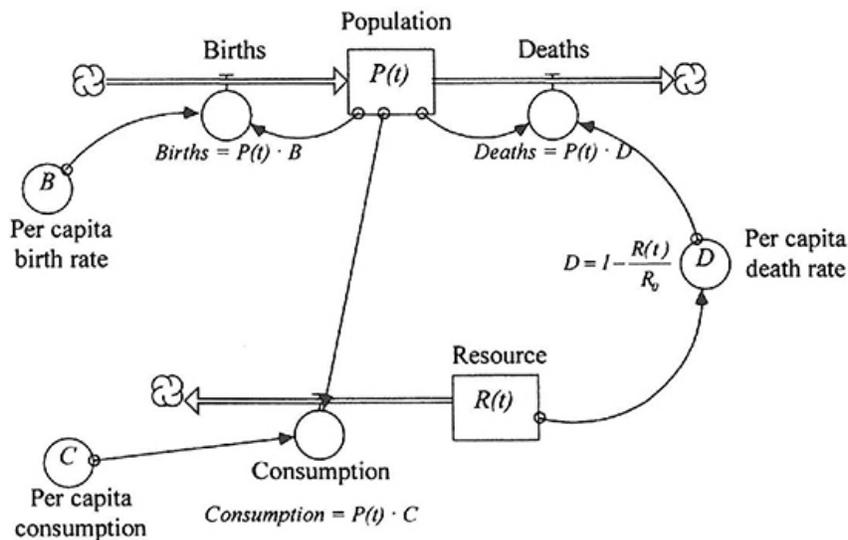
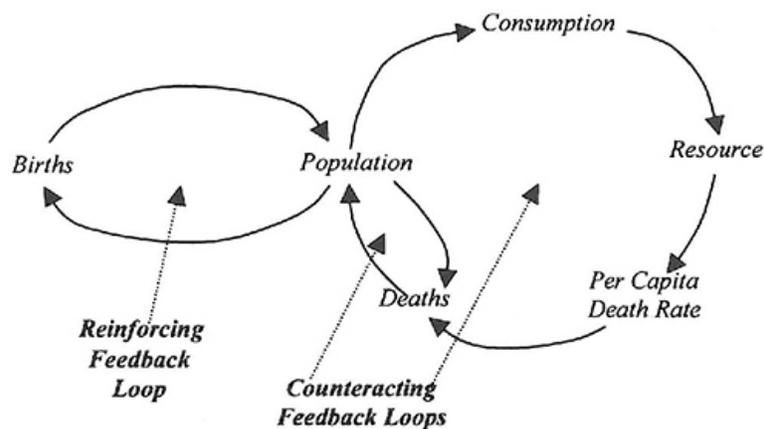

FIGURE 2.15. Generic system diagram for overshoot and collapse behavior.
FIGURE 2.16. Feedback loops in the overshoot and collapse model.
Figure 2.15 displays an example diagram of an overshoot and collapse system. There are many different model constructs that will lead to similar behavior. The system diagram in Figure 2.15 was chosen for its overall simplicity and in order to illustrate the main features of this type of system. The use of the words *Population* and *Resource* in Figure 2.15 are not meant to imply that overshoot and collapse behavior can happen only with populations using resources. They are used here only for convenience. The
Study Figure 2.15 very carefully to make sure you see how this system will lead to overshoot and collapse behavior. The following important characteristics are evident from the figure.
5. The system depicted in Figure 2.15 includes three different feedback loops. These are displayed in Figure 2.16 as well. Note that the loop involving the *Population* and *Births* and the loop involving *Population* and *Deaths* are reinforcing and counteractive feedback loops, respectively. The large loop involving *Population*, *Consumption*, *Resources*, and *Death Rate* is a counteracting feedback loop. This last loop is the feature in this system that leads to the ultimate collapse of the *Population*.
Using the same approach used for the linear, exponential, and logistic systems, the difference equations corresponding to Figure 2.15 can be derived. It is important to note that overshoot and collapse systems different from Figure 2.15 can be constructed, and those constructs would lead to a different set of difference equations. If you understand how this particular system and the associated equations work, however, you will be able to apply these same concepts to other overshoot and collapse constructs.
There are two reservoirs in Figure 2.15. Hence, we provide here two difference equations, one for each reservoir. By referring to Figure 2.15, the difference equation for the *Population*, is seen to be
Equation (2.18) shows that future values of the *Population* depend both on past values of  $P(t)$  as well as on values of the *Resource* [ $R(t)$ ]. We will elaborate on this relationship shortly. Equation (2.19) gives the difference equation for the *Resource* reservoir. Make sure that you see how this expression [and Equation (2.18)] are obtained from Figure 2.15.